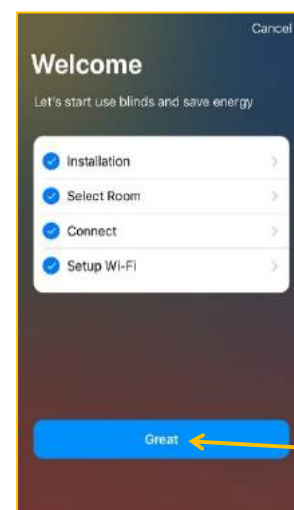

Figure 11
10.2.4.3. After successful connection to Wi-Fi, **Great** key appears on the screen (Fig. 11). Click it to start operation of the BLINDS.